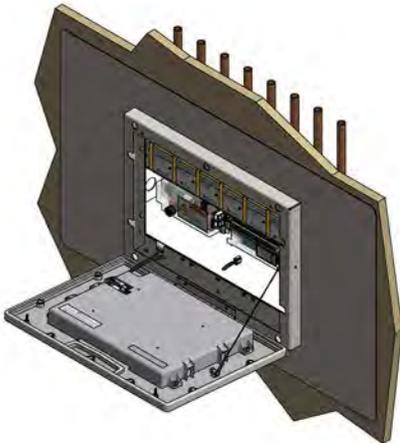

Figure 125: Front Panel Assembly Mounting
1. Mount the Front Panel assembly to the trim ring using the countersink sheet metal screws provided on the trim ring (Figure 125).